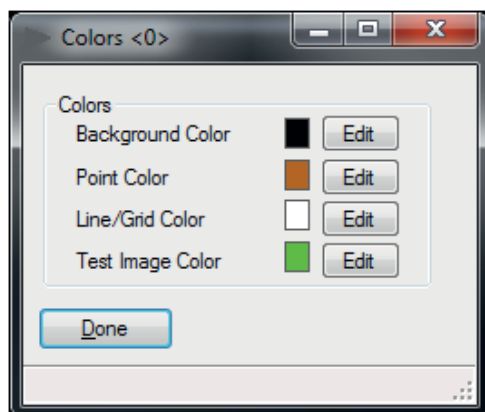

Figure 6-18. Set colors control box
- Set Colors. Set the color for background, lines, control points and internal test patterns. see Figure 6-18.